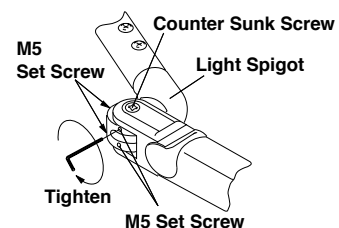

Fig.6-14 Tightening the Set Screws on the Light Spigot
G. After fitting the dental light onto the cuspidor unit, tighten 4 x M5 set screws on the light spigot firmly, after adjusting the counter sunk screw to the required tension. (Fig.6-14)